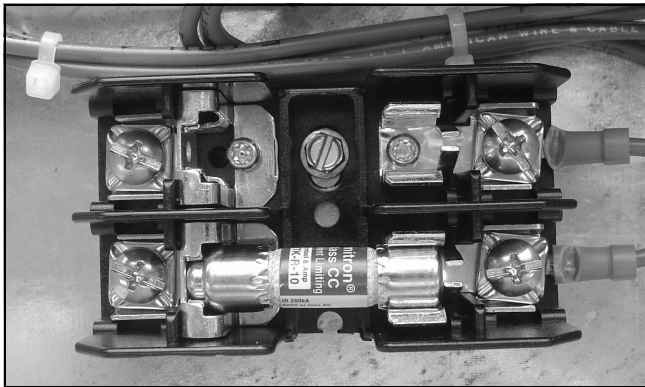

Figure 45. Remove the Fuses to Access the Mounting Screws.
- Step 3:** Remove the utility sensing fuses from the fuse block to gain access to the fuse block mounting screws (see Figure 45).
- Step 4:** Remove the two (2) screws securing the current limiting fuse block to the base plate using a blade screwdriver or 0.25 in. nut driver (see Figure 45).